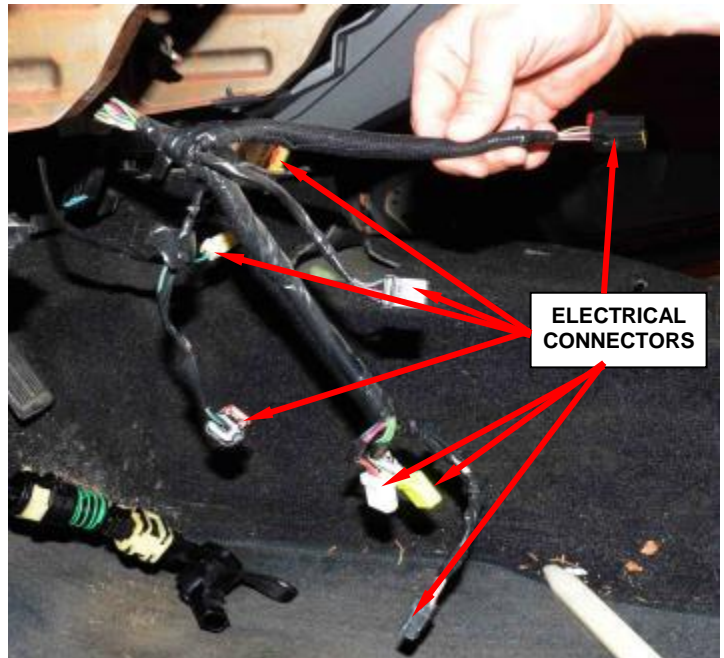

Figure 134 – Column Electrical Connectors
12. Disconnect the wiring harness electrical connectors from the column (Figure 134).
- a. Disconnect the accelerator position sensor electrical connector (Figure 134).